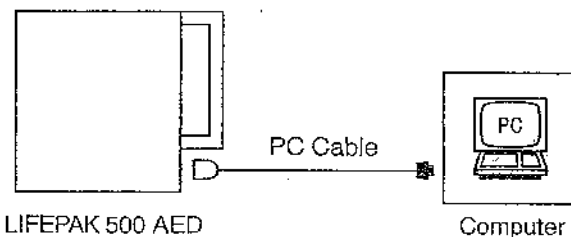

Figure 4-5 Equipment connections for data transfer by direct connection to a computer
2. Connect the equipment as shown in Figure 4-5.